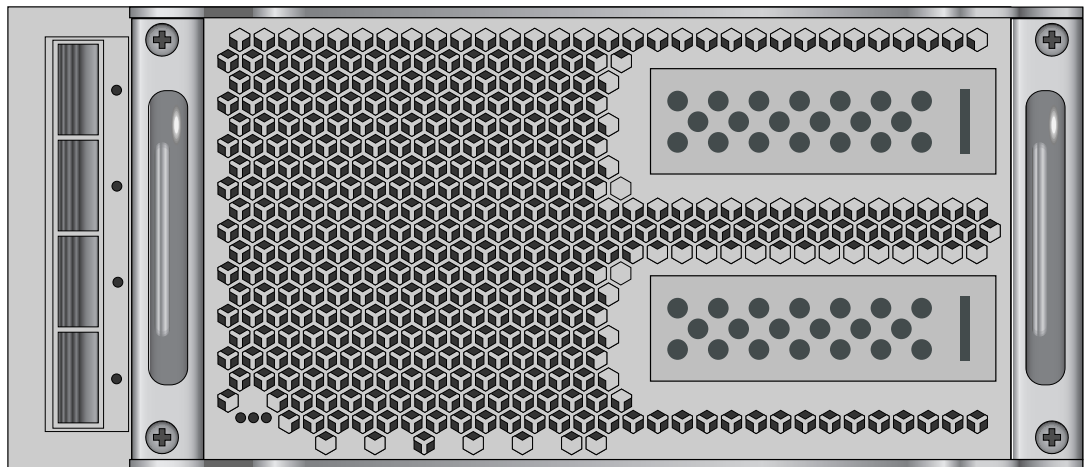

Figure 1-9 PCIe Option Blade Example with Two Low-Profile Slots
- The optional dual low-profile PCIe blade supports two PCIe x16 Gen3 cards. See Figure 1-9 on page 26 for an example.